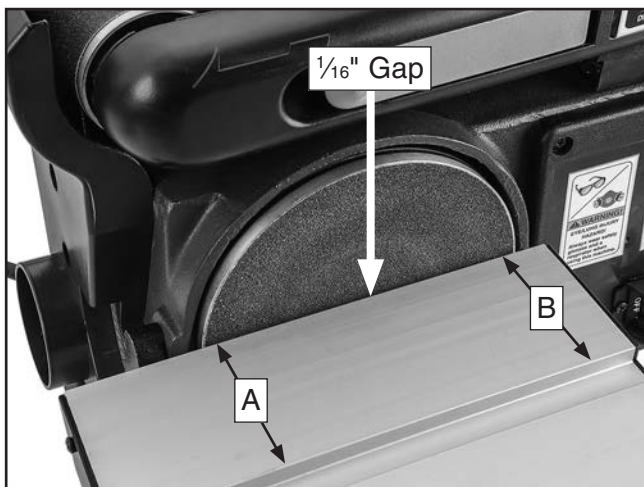

Figure 33. Work table alignment.
3. Check miter slot parallelism by measuring distance from each end of sanding disc to edge of miter slot (see **Figure 33**). Distance "A" should be equal to distance "B" with $\frac{1}{16}$ " gap between table and disc.
5. Adjust table so distance "A" equals distance "B" (**Figure 33**), with $\frac{1}{16}$ " gap between table and sanding disc.